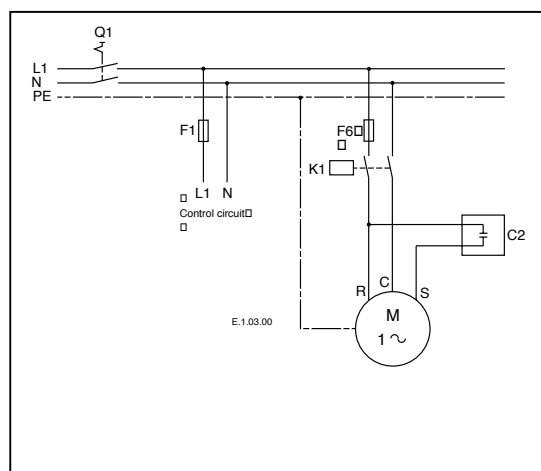
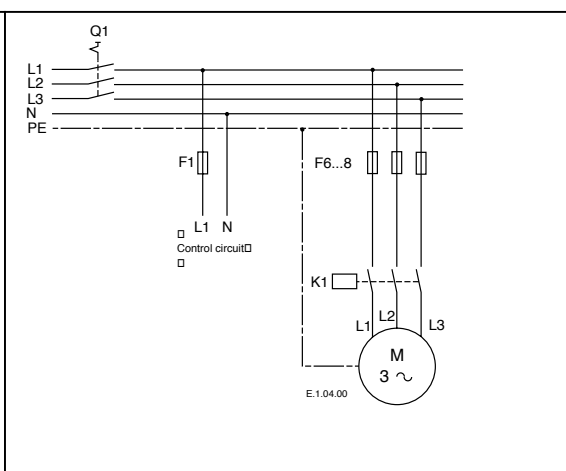

Figure 8: Power circuit single phase
Figure 9: Power circuit three phase
Independently from the internal motor protection, fuses F6...8 have to be installed before the compressor as shown in Figure 8 and Figure 9. Selection of fuses has to be carried out according to VDE 0635 or DIN 57635 or IEC 269-1 or EN60-269-1. Motor insulation material class is "B" for models ZH 15 K4*...ZH 45 K4* according to IEC 34-1 or DIN 57530.
The fuse connections are marked as in Figure 7. Recommended wiring diagrams are shown in Figure 8 and Figure 9. Single-phase compressors are connected to the common (C), start (S) and run (R) connections as usual. Three-phase models are connected (L1,L2,L3) to T1, T2 and T3.